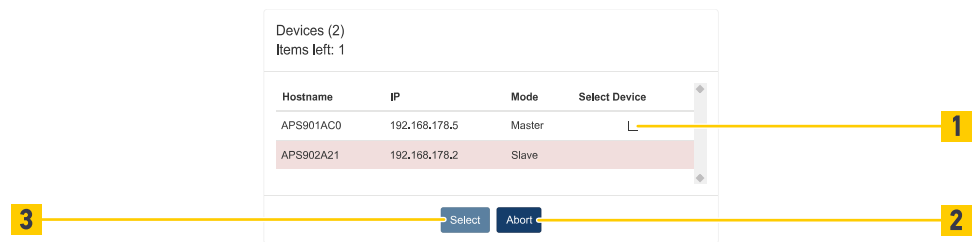

Fig. 96: Select master device
- To select the master device mark a device (Fig. 96 /1) and click the Select button (Fig. 96 /3).
- To leave the window without selecting a device click the Abort button (Fig. 96 /2).